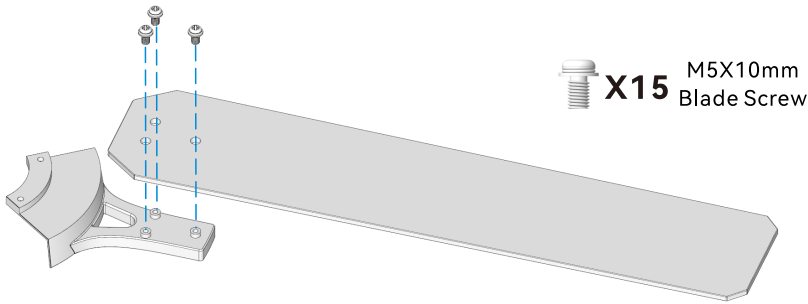

Fig. 1.1
- 1.1 Locate the 15 blade attachment screws included in the hardware pack. Use these screws to firmly attach each blade to the blade bracket, as demonstrated in Fig. 1.1.